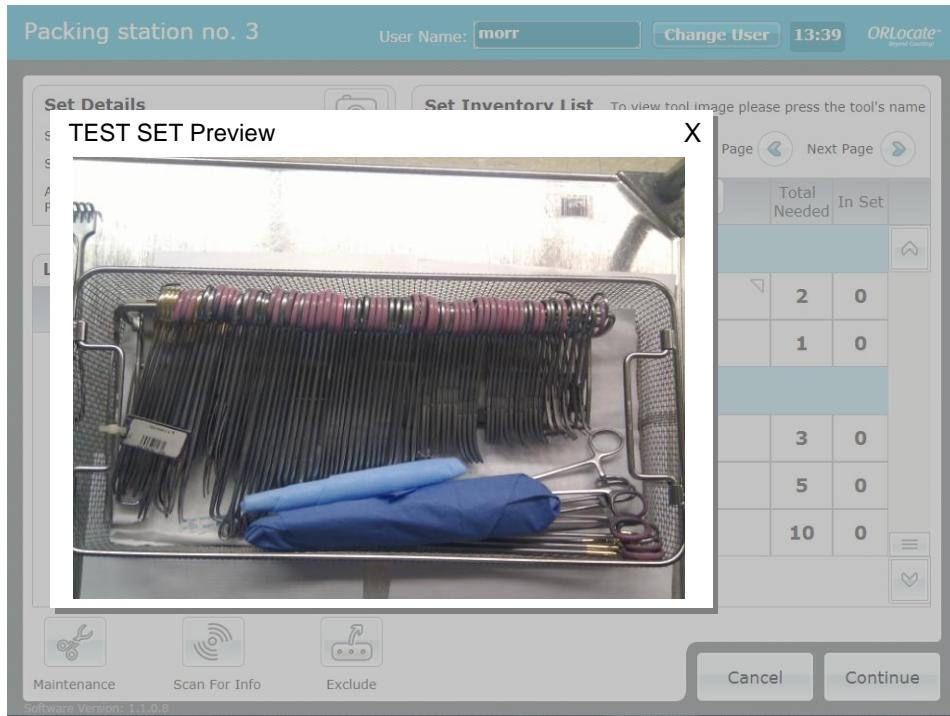

Figure 11
In the set details area appears the set type and ID and a progress bar that represents the progress of the set assembly (approximation) (1). Also in this area is a "Preview" button (2) – pressing the button will display a photo of a packed set, as shown in figure 11 below: